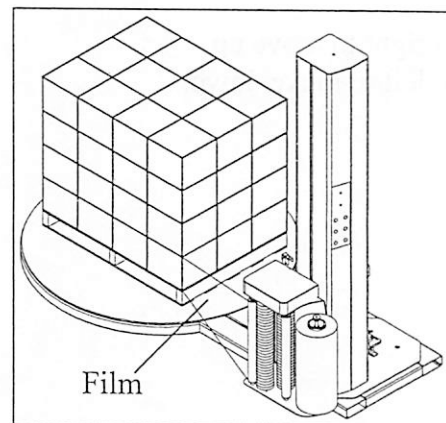

Fig. 3-3-2
2. Manually attach film to the lower portion of the pallet. (Per fig.3-3-2)